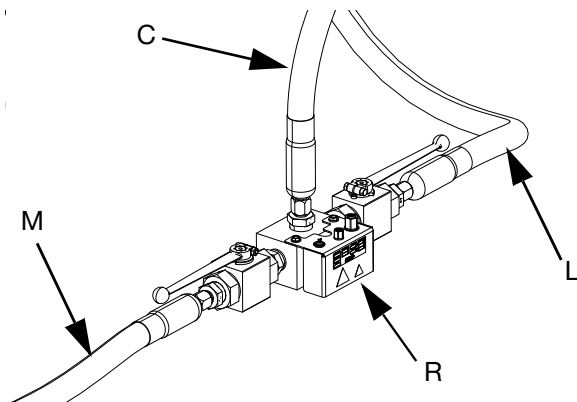

FIG. 23
- c. Connect Tandem Hose 1 (L) and Tandem Hose 2 (M) from the supply system to the Tandem Block (R). See FIG. 23.
- d. Connect Supply Hose 1 (C) to the Tandem Block (R). See FIG. 23.